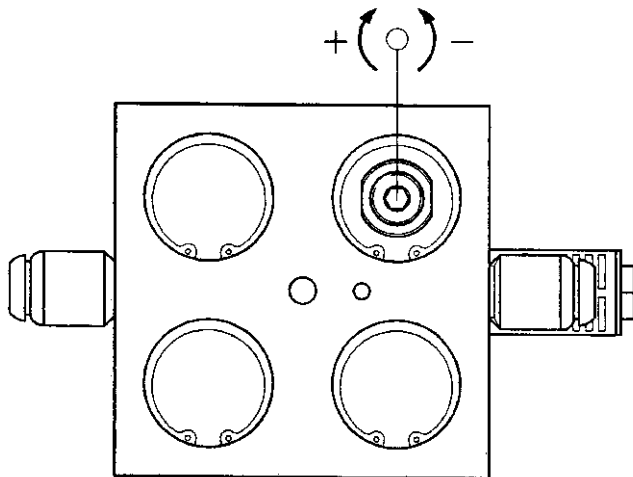

Figure 3
6. The automatic raise pressure margin adjustment screw is shown in (Figure 3). With the regulation screw in the minimum pressure position (nut level), the automatic raise pressure margin will be adjusted to approximately the minimum margin, 17.5psi.